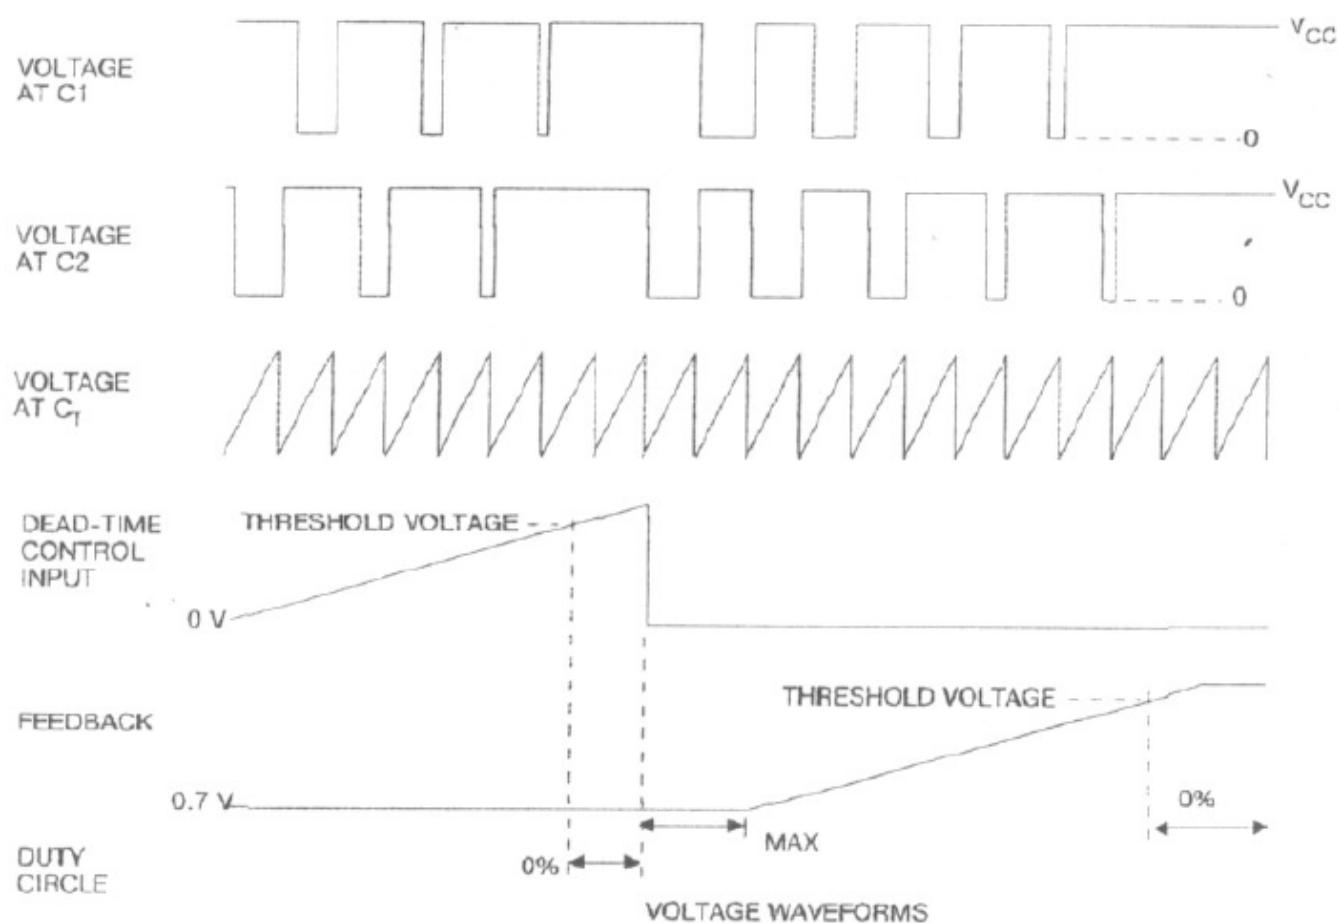

Figure 1. Operational test circuit and waveforms
## Oscillator section (See Figure 1)
**Dead -Time Control - Section(See Figure1)**
**P M Comparator Section(See Figure 1)**